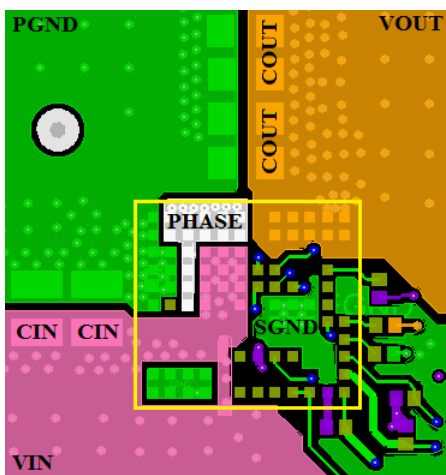
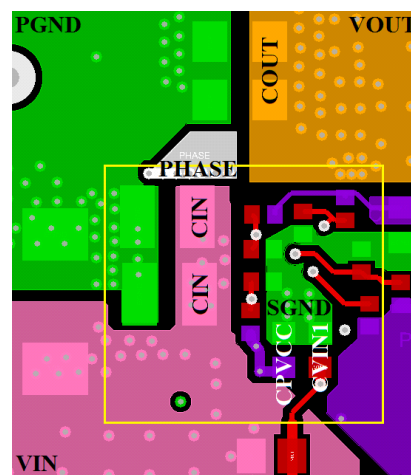

Figure 50. Layout Example - Top Layer
Figure 51. Layout Example - Bottom Layer
- (1) Renesas recommends using a six-layer PCB board. Use the top and bottom layer to route VIN and VOUT. Use a full ground plane in the internal layers (underneath the module) with shared SGND and PGND to simplify the layout design. Use another full ground plane directly above the bottom layer. Use the other internal layers to route the remote sense, PGOOD, SCL, SDA, and SALERT signals.
- (2) Place the input capacitors and high frequency decoupling ceramic capacitors between VIN and PGND as close to the module as possible. The loop formed by the input capacitors, VIN, and PGND must be as small as possible to minimize high frequency noise. Place the output ceramic capacitors close to VOUT. Use a copper plane to connect the output ceramic capacitors to the load to avoid any parasitic inductances and resistances. An example layout is illustrated in Figures 50 and 51.
- (3) Use large copper planes for power paths (VIN, VOUT, and PGND) to minimize conduction loss and thermal stress. Also, use multiple vias to connect the power planes in different layers.
- (4) Do not oversize the copper planes for the PHASE planes. Because the PHASE planes are subjected to very high dv/dt, the parasitic capacitor formed between these planes and the surrounding circuitry tends to couple the switching noise. Ensure that none of the sensitive signal traces are routed close to the PHASE plane.
- (5) Place the PVCC and VIN1 bypass capacitors underneath the PVCC and VIN1 pins and connect their grounds to the SGND. For the external pin-strap resistor dividers connected to PROG1, PROG2, PROG3, and PROG4, connect the low side dividers' ground to the SGND. If a local decoupling capacitor is used to bias these resistor dividers, place the decoupling capacitor close to the dividers, and connect the capacitor's ground to the SGND. An example layout is illustrated in Figure 51.
- (6) Connect remote sensing traces to the regulation point to achieve a tight output voltage regulation. Route the remote sensing traces in parallel underneath the PGND layer and avoid routing the sensing trace near noisy planes such as PHASE. Place 2Ω resistors close to VSEN and RGND, respectively, to dampen the noise on the traces.